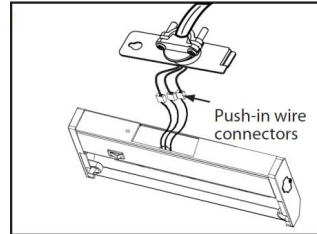

FIGURE 4
- D)** Strip back jacket on supply wires to 3/8" and use push-in wire connectors inside housing to connect wires (Black to Black/Hot, White to White/Neutral and Yellow/Green/Ground to bare wire) through knockout so that push-in connectors are positioned on the housing side of the access door. (Figure 4)